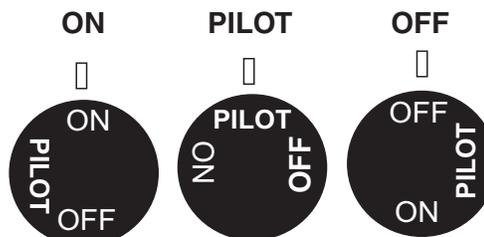

Fig. 16-4
- Make sure that the control valve on the assembly is in the **OFF** position (see Fig. 16-3 & Fig. 16-4). Carefully turn on the gas to the fireplace and leak test at all connections by applying a soapy water solution to their surface. If bubbles appear, a leak is present. Turn off gas and tighten all connections, then turn on the gas and repeat the leak test. **Never use an open flame to check for leaks.**